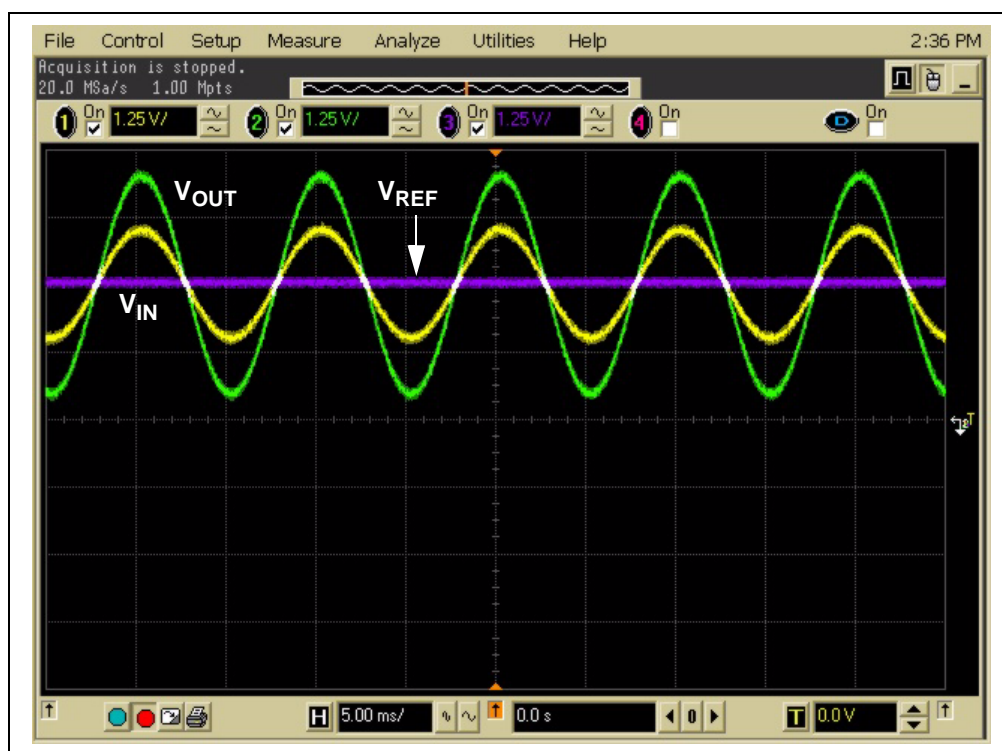

FIGURE 2-27: Measured Sine Wave Response.
- The measured sine wave response is shown in Figure 2-27. It is a sine wave signal with a frequency of 100.0 Hz, a peak-to-peak voltage of 4.0V and a center voltage of 2.5V